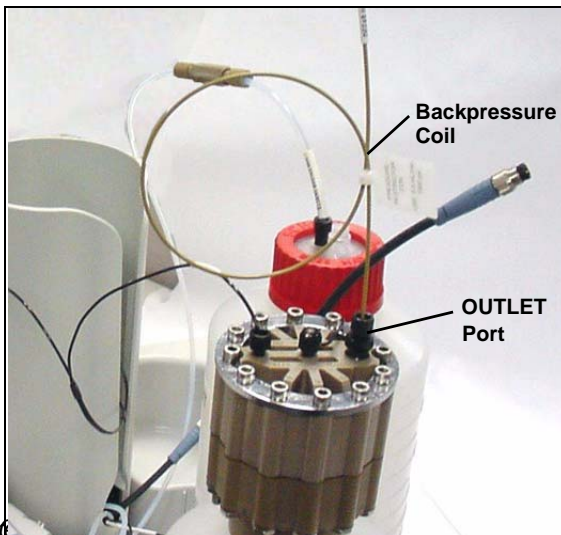

Figure 40
7. Connect one end of this coil to the EGC **OUTLET** port (see Figure 40). Leave the other end of the coil unconnected.